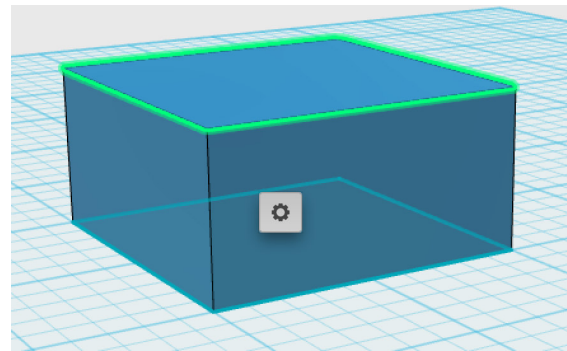

Figure 4-22 Click to select
1. To select an object, simply click on it (Figure 4-22).